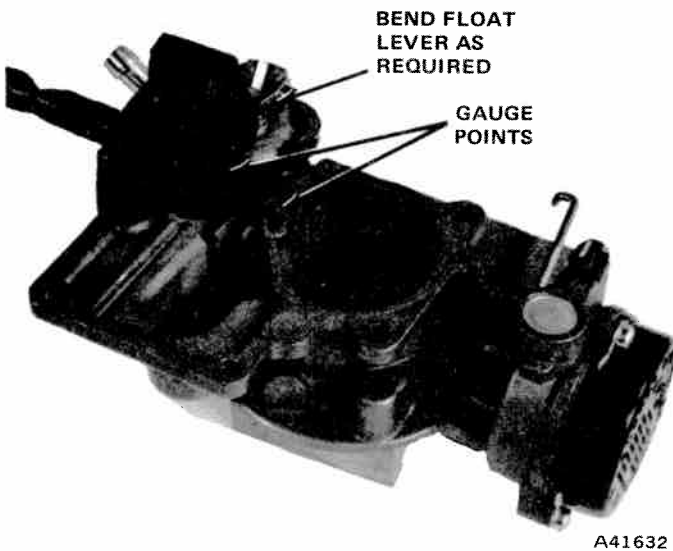

Fig. 4-23 Float Level Adjustment
(1) Remove carburetor air horn and gasket from carburetor.
(2) Invert air horn assembly, and check clearance from top of float to bottom of air horn with float level gauge (fig. 4-23). Hold air horn at eye level when gauging float level. The float arm (lever) should be resting on the needle pin.